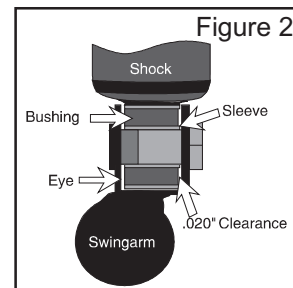

Figure 2
- Install shock assemblies onto motorcycle and tighten mounting bolts/nuts according to your owners manual or repair manual torque specifications. Both the upper and lower shock eye bushings should have enough side and shaft clearance to allow the shock eyes to pivot on either end when the mounting bolt or nut is properly torqued. (See figure 2)